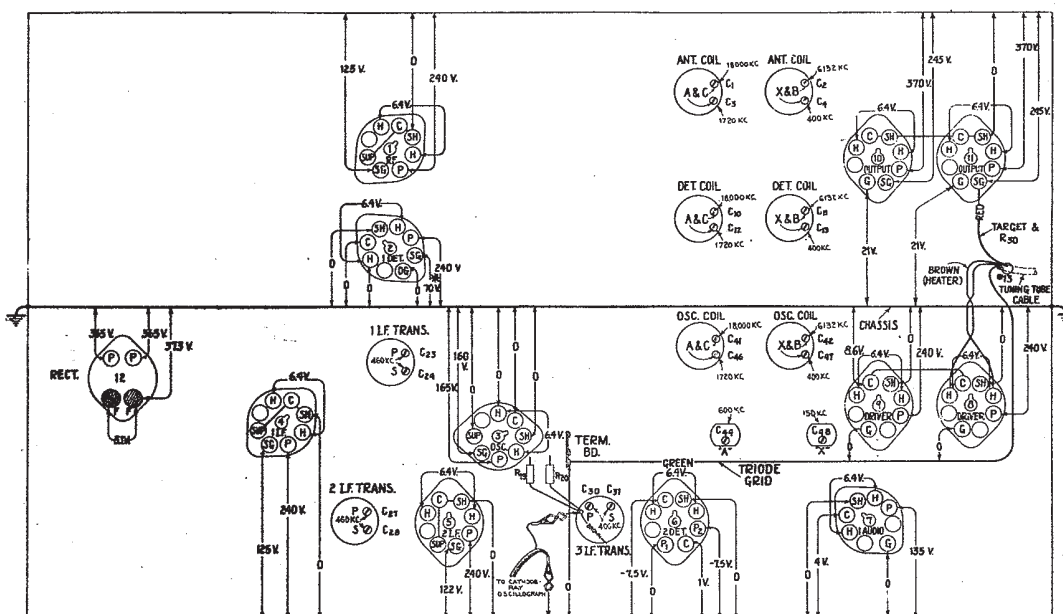
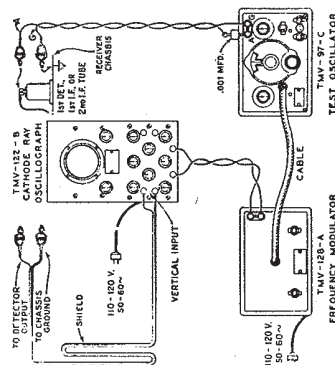

Figure 7—Trimmer Locations and Radiotron Socket Voltages
Figure 6—Alignment Apparatus Connections to 460 kc. having its modulation switch turned to "On". Regulate the output control until
ing manufacture, hence no alignment will be necessary in this range. Locations of the various antenna, detector and oscillator trimmers are shown on Figure 7. The test Oscillator should be removed from connection with the i-f system and its output attached to the antenna-ground terminals of the receiver. No changes are to be made in the attachment of the Oscillograph at the second detector. During the adjustments, the Oscillator output should be regulated as often as is necessary to keep the oscillographic image as low as is practically observable. Such procedure will obviate apparent broadness of tuning which would result from a.c. action on a stronger signal. The sequence of alignment should be Band A, Band X, Band B and Band C. Proceed with the adjustments as follows:—
- (a) With the receiver range switch on its Band A position, tune the station selector until the dial pointer is at a reading of 1720 kc. Adjust the Oscillator to 1720 kc. (modulation "On" and Frequency Modulator disconnected) and increase its output to produce a registration on the Oscillograph. Carefully align the oscillator, detector and antenna trimmers, C-46, C-12 and C-3 respectively, so that each brings about maximum amplitude of output as shown by the wave on the Oscillograph. It will be necessary to have the timing control of the Oscillograph on "Int." for this operation. Then shift the timing control to "Ext." and place the Frequency Modulator into operation with its connections to the Oscillator and Oscillograph as shown on Figure 6. Retune the test Oscillator (increase frequency) until the forward and reverse waves show on the Oscillograph and become coincident at their highest points. Adjust the trimmers C-46, C-12 and C-3 again, setting each to the point which produces the best coincidence and maximum amplitude of the image.
- (c) The Frequency Modulator should then be placed in operation and interconnect with the Full Range Oscillator by means of the shielded patch cord provided. Figure 6 shows the proper arrangement. Set the Frequency Modulator sweep range switch to its "Lo" position and turn the Oscillator modulation switch to "Off". Change the timing (Sync.) control of the Oscillograph to "Ext." and place the range switch to its No. 2 position. Then shift the tuning of the Oscillator so as to increase its frequency, until two distinct and similar waves appear on the Oscillograph screen and become coincident at their highest points. These curves will be found to occur at an Oscillator setting of approximately 540 kc. They will be identical in shape but appearing in reversed positions. Adjust the frequency control of the Oscillograph in order to cause the waves to conform with these requirements and to make them remain motionless on the screen. This will require a setting of approximately 1/2 clockwise rotation of the frequency control. The trimmers C-30 and C-31 should then be re-adjusted so that the two curves move together and become exactly coincident throughout their lengths, maintaining the maximum amplitude at which this condition can be brought about.
Six trimmers are associated with the three i-f transformers. Their locations on the chassis are shown by Figure 7. Each must be aligned to a basic frequency of 460 kc. The last i-f transformer should be adjusted first, the one preceding it second and the operation carried through successive stages until the first transformer has been aligned. For such a process, it is necessary to feed the output of the Full Range Oscillator to the stages in their order of alignment, adjusting the trimmers of each and observing the effect at the second detector output on the Cathode-Ray Oscillograph. The most convenient point for connection of the Oscillograph is at the detector diode load circuit, with the vertical "Hi" terminal attached to the junction of R-17, R-18 and R-19, and the "Gnd" to the chassis. The "Ext. Sync." terminals of the Oscillograph should be connected to the Frequency Modulator as illustrated in Figure 6. A .001 mfd. capacitor installed in series with the Oscillator "Ant." output lead will prevent the voltage constants of the stage being aligned from becoming upset. Proceed further as follows:—
The voltage values indicated from the Radiofon socket contacts to ground on Figure 7 will serve to assist in locating causes for faulty operation when constant. Each value as specified should hold within $\pm 20\%$ when the receiver is normally operative at the rated supply voltage. Variations in excess of this limit will usually be indicative of trouble in the basic circuits. The voltages given on the diagram are actual operating values and do not allow for inaccuracies which may be caused by the loading effect of a voltmeter's internal resistance. This resistance should be duly considered for all readings. The amount of circuit resistance shunting the meter during measurement will determine the accuracy to be obtained, the error increasing as the meter resistance is comparable to or less than the circuit resistance. For the majority of readings, a meter having an internal resistance of 1000 ohms per volt will be satisfactory when the range used for each check is chosen as high as possible consistent with good readability.